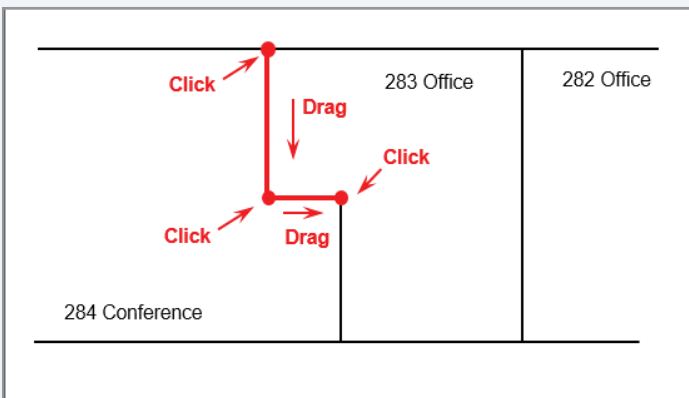

Figure 2a. Click, Drag, Click Each Wall Segment
2. Non-Rectangular Rooms - If you have a room that's not a rectangle, point and click the corners of the room in succession until the outline is complete (Figures 2a and 2b).